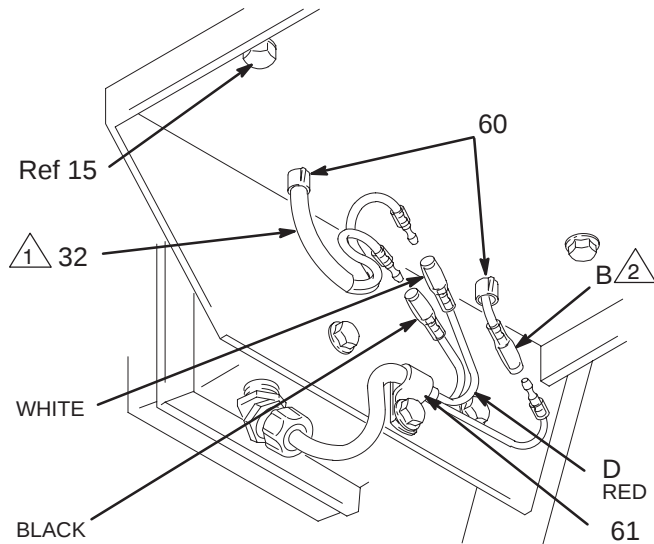

Fig. 14
2. See Fig. 14 and 15. Disconnect the red wire (D) from the engine lead (B). Disconnect the black and white wires from the field. Loosen the clamp (61). Pull the wires carefully through the grommets (60) before removing the engine. Remove the two locknuts (84) and then pull the screws (14) out of the base of the engine.